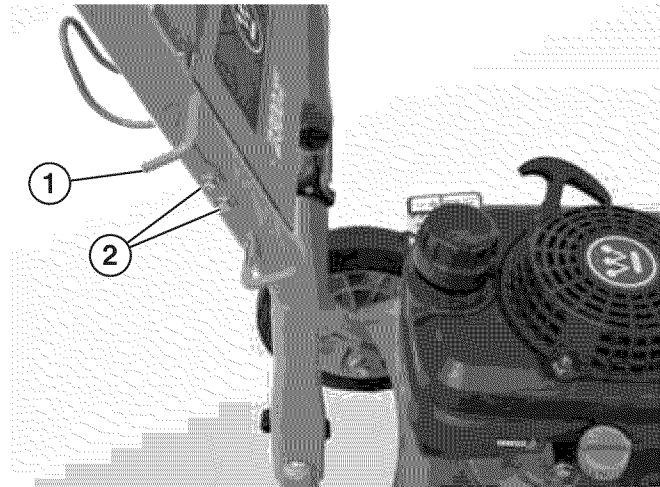

Figure 10 – Installing Spray Gun Bracket
9. Install the spray gun bracket using the M6 bolts and nuts (see Figure 10).